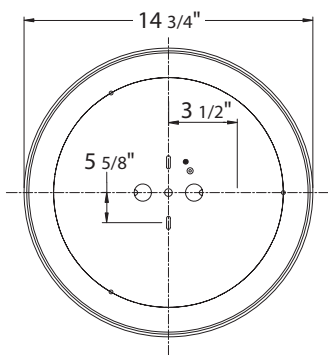

Fig 3: Recommended length
6. Adjust the fixture wire length by pushing the cable gripper on the canopy and pulling the wire as desired. (see Fig. 3 for recommended length)